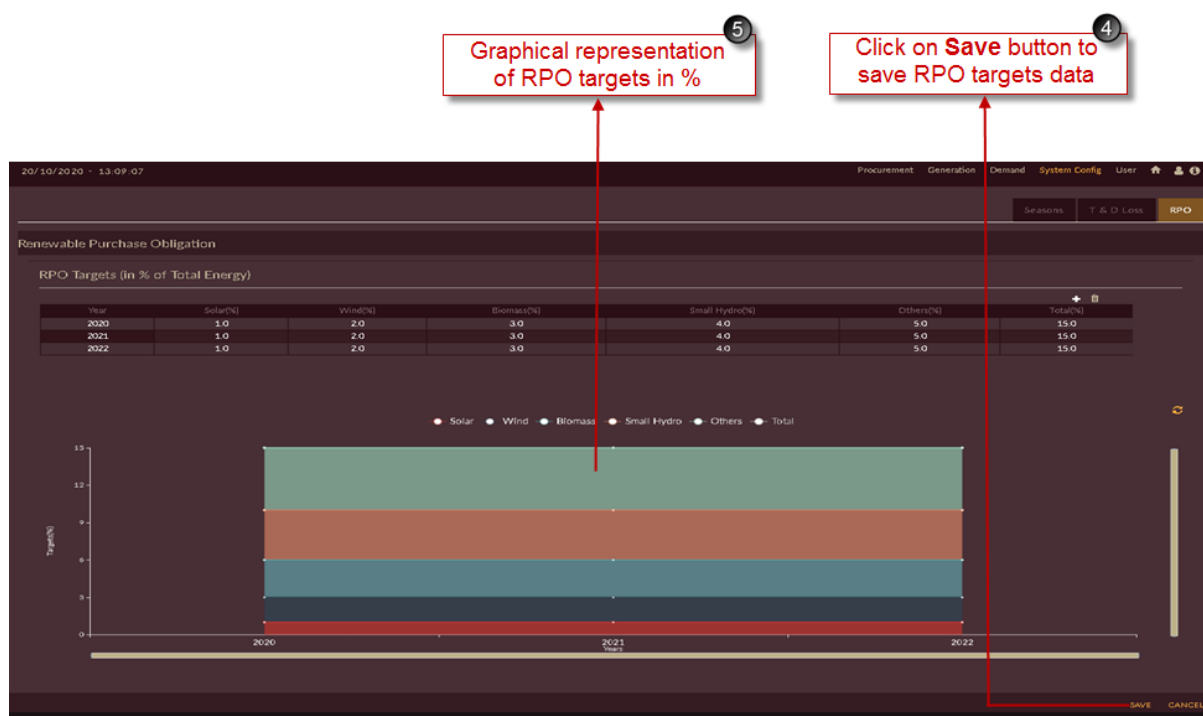

Figure 259. Saving RPO Target Data
5. Once RPO targets are saved corresponding graph appears on the screen as shown in Figure 259.